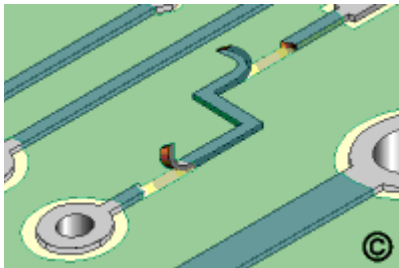

Fig 8.13
1. Evaluate damage and measure conductor width (**Fig 8.13**)